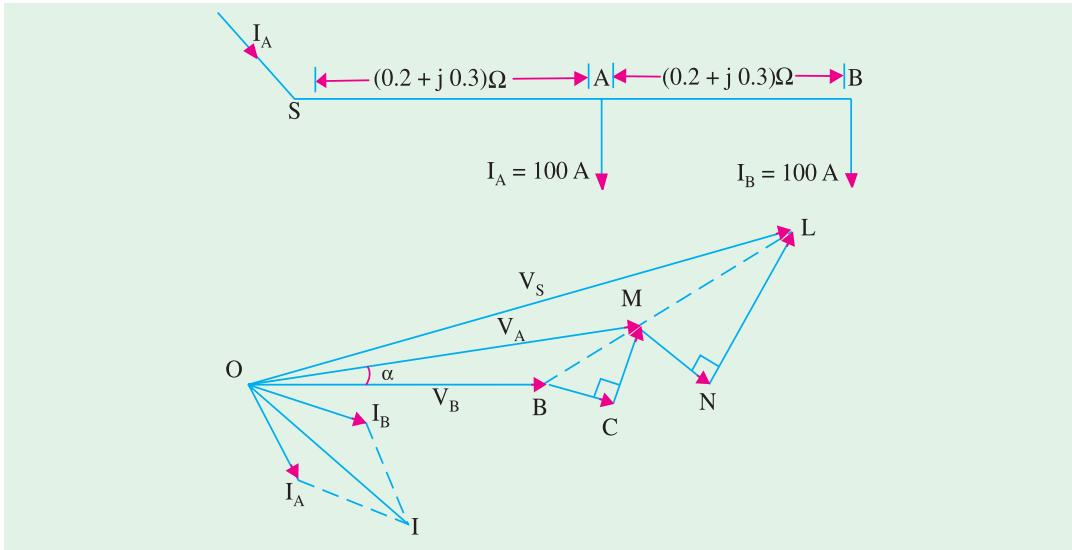

Fig. 41.54
**Solution.** As shown in Fig. 41.54 (a), let  $SB$  be the distributor with  $A$  as the mid point. Total impedance of the distributor is  $= (0.4 + j0.6) \Omega$ .
Hence, it lags behind  $V_B$  by an angle of  $(53^\circ 8' - 2^\circ 30') = 50^\circ 38'$  as shown in the vector diagram of Fig. 41.54 (b).